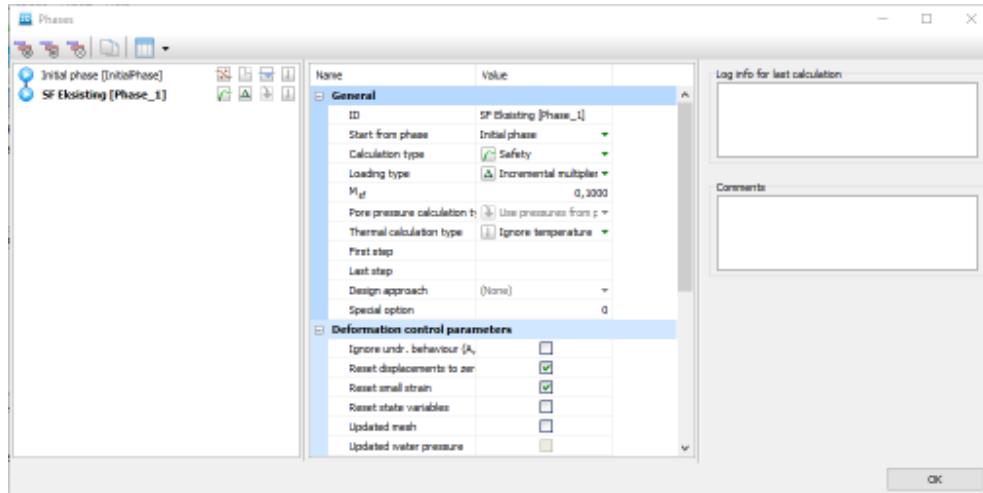

Figure 10: Phase 1.
- In the Phases window select the **Safety** option from the **Calculation type** drop-down menu in the General subtree (Figure 10).